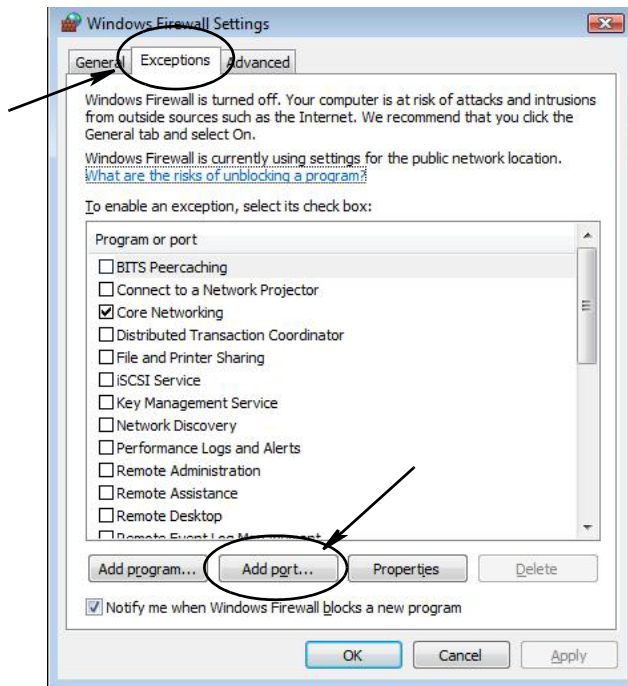

FIG. 28
3. If not already selected, click “Exceptions Tab to display contents (FIG. 28).
4. Click “Add Port” button (FIG. 28).